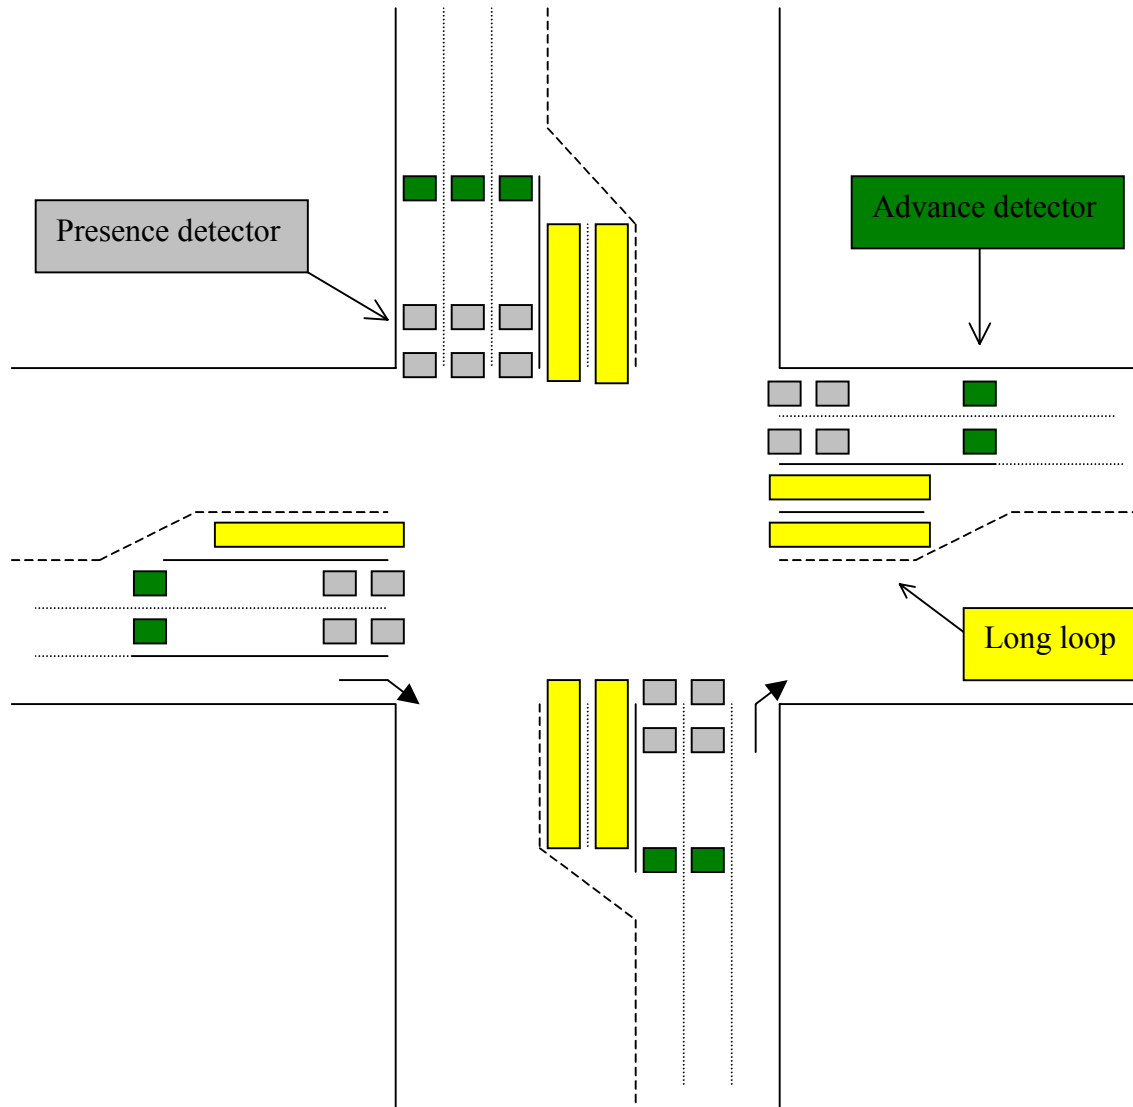

Figure 1 Typical Intersection Layout
The layout of a typical actuated signal intersection is shown in Figure 1.
- (1) Write down the name of the intersection, i.e. Alton & ICD, and the signal ID that is shown in the first page of signal timing chart.
- (2) Write down the two street names, the direction, and the PARAMICS designation of the junction node and the four adjacent nodes on four approaches.
- (3) Find NEMA movement number 1, generally a left turn, from the Signal Timing Chart. Write down the turn arrow and the movement number 1. As a result, all NEMA movements / phases can be determined based on the definition of the standard NEMA phases / movements shown in figure 1. Write down all NEMA movements on the worksheet.
- (4) Write down the approach number on the worksheet. The approach that the 1st NEMA movement locates is defined as approach 1 here. The counter-clockwise approaches around the junction are defined as approach 2, 3, 4.;
- (5) Fill out the 3-5 rows (Initial green, Extension, Max green) of the table on the bottom of the worksheet. The ini_green corresponds to the “Initial”(green time) and the max_green corresponds to the “Max Green” in the Signal Timing Chart.
- (6) Find out the recall movement from “Signal Timing Chart”. Enter the two recall movement numbers into the first two columns of the “recall” row;
- (7) Find out how many lanes correspond to each NEMA movement from “layout of the intersection” or PARAMICS environment. Fill them in the row of “lanes” in the worksheet. The first value in the row corresponds to the number of lanes for NEMA movement 1 and the second value corresponds to NEMA movement 2, etc. In many situations there are lanes that are shared by different movements. For example, one lane may allow both left turning and through vehicles to pass. In this case, the lane will count both as one through lane and as one half (0.5) of a left-turning lane.
- (8) From the layout, find out how many right turn lanes for each approach (1 -> 4). Please refer to the definition at step 4 for the definition of approaches 1 to 4. Write down these numbers in the row of “Right-turn lanes”. As in the case of lanes that allow both left and through movements, lanes that allow through and right-turn movements will count as one through lane and one half of a right-turning lane.
- (9) The row of “detector 1” to “detector 4” should be filled with the name of detectors (the sequence is from stopline detectors to the advance detector, seen in figure 1) on “approach 1” to “approach 4”. Please refer to the definition at step 4 for the definition of approaches 1 to 4. In some cases, one or more of the detectors for an approach does not need to be modeled. Each missing detector needs to be specified as “N/A” in the worksheet. In Paramics v3.0 build 6, it was necessary to place three separate detectors at the stopline to ensure proper detection. However, build 7 of Paramics 3.0 and all later versions only need one long detector. To allow reverse compatibility, it still might be desirable to place three separate detectors.